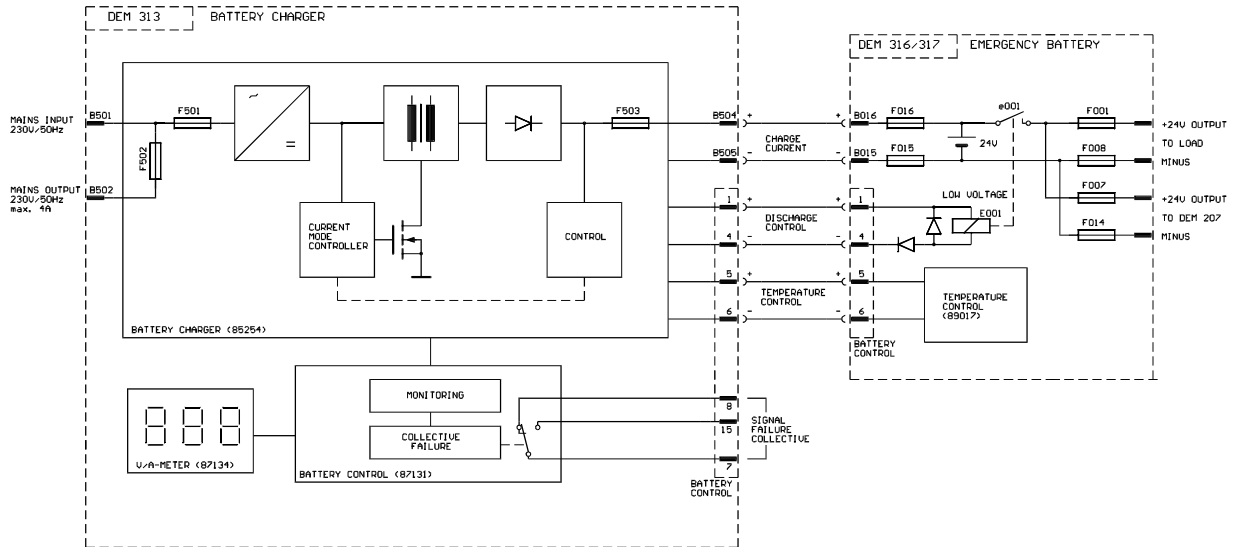
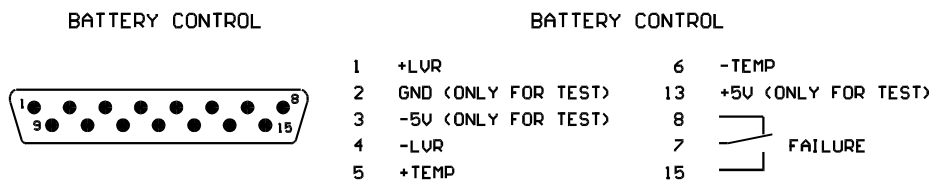

Fig. 1 Connection of the battery to the charging unit
Fig. 2 Connections of the BATTERY CONTROL pin connector
- The D-sub connector socket BATTERY CONTROL (9) of the charging unit is to be connected with the D-sub connector BATTERY CONTROL of the battery module (also see Figure 1 and Section 3.1).
- The CHARGE OUTPUT (8) of the charging unit is to be connected with the charging input CHARGE CURRENT of the battery module. Please observe correct polarity (see Figure 1). The cross-section of the line between the charging unit and the battery module must be at least 2.5mm². Insulated AMP flat-pin sleeves 6.3x0.8 mm must be used for the connections. The line length must not exceed 2 m.
- Another device can be connected at the mains connector MAINS OUTPUT (5), if its power consumption does not exceed 4 A. The mains connector MAINS OUTPUT (5) is protected against overloading by a fuse (4) with the rating T4A. A fuse rating above T4A is not admissible.
- If all connections have been made correctly, the unit can be connected with the mains by means of the supplied power cable. The mains cable is connected at the 3-pole mains connector socket (7) on the unit
Various control input/outputs are available at the 15-pole D-sub pin connector BATTERY CONTROL (9): (Also see Figure 2):
For temperature tracking of the charging voltage in standby mode, the temperature sensor (retrofitting kit NRS 90200) must be installed according to the retrofitting instructions and is to be connected with the charging unit (see also Figures 1, 2 and Sections 3.1, 6.9).
In order to prevent exhaustive discharging of the battery, suitable relays must be used which are to be connected with the charging unit according to Figure 1 or Figure 2. The total coil resistance of the relays may not be below 70 ohms.
The collective failure signal is designed as a floating contact, making available malfunctions of the battery such as: disconnection at LOW VOLTAGE, wrong polarity or battery short-circuit, as well as malfunctions of the charging unit such as: absence of LINE VOLTAGE, OVERVOLTAGE or failures in the charging circuit CHARGE CURRENT for long-range transmission. The corresponding failure is indicated on the unit itself via the corresponding LED (3) lighting up or going off respectively, (see page 2 as well as Section 6.1 to 6.6). The floating contact of the collective failure indication is wired at the D-sub pin connector BATTERY CONTROL (9) (see Figure 2).